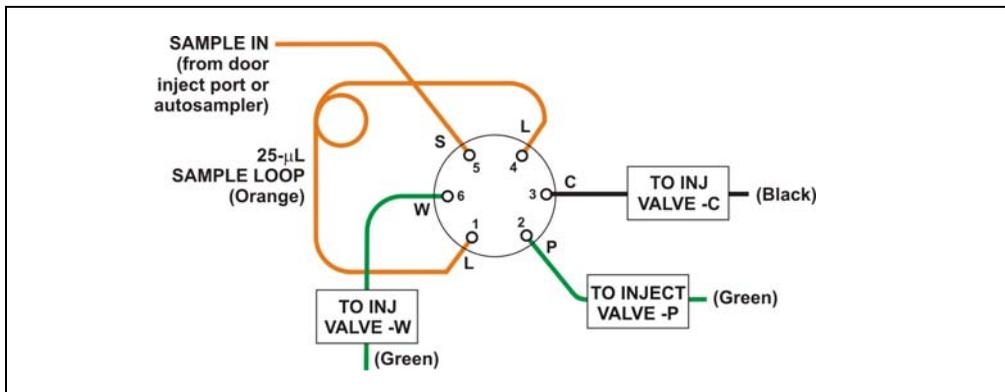

Figure 3-7. Injection Valve Connections
1. Make sure the injection port on the Dionex ICS-1100 front door (see Figure 2-1) is connected to sample port **S (5)** on the injection valve (see Figure 3-7).
1. Disconnect the waste line from port **W (6)** of the injection valve (see Figure 3-7) and attach a shorter line: 25 to 30 cm (10 to 12 inches) of PEEK or PTFE (polytetrafluoroethylene) tubing.